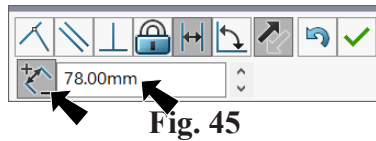
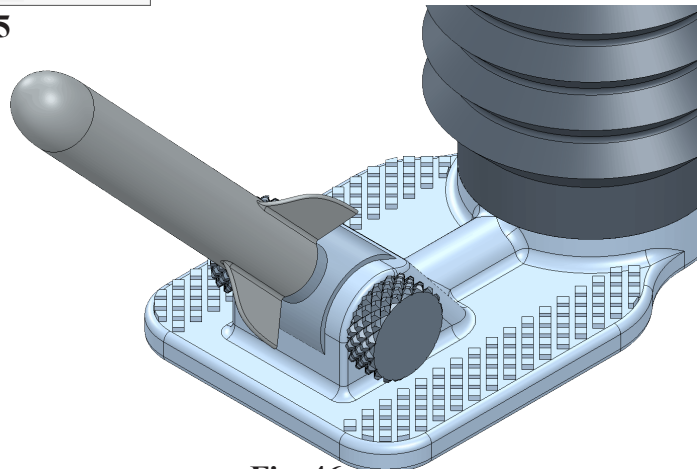

Fig. 45
Fig. 46
Step 7. Click **Distance**  in Mate pop-up, **Fig. 45**. Set **distance 78** and press **ENTER**. The nose cone of Rocket should align with top face of Tube, **Fig. 46**. If positioned in opposite direction, click **Flip Dimension**  in the Mate pop-up. Click **Add/Finish Mate**  to add Distance mate.